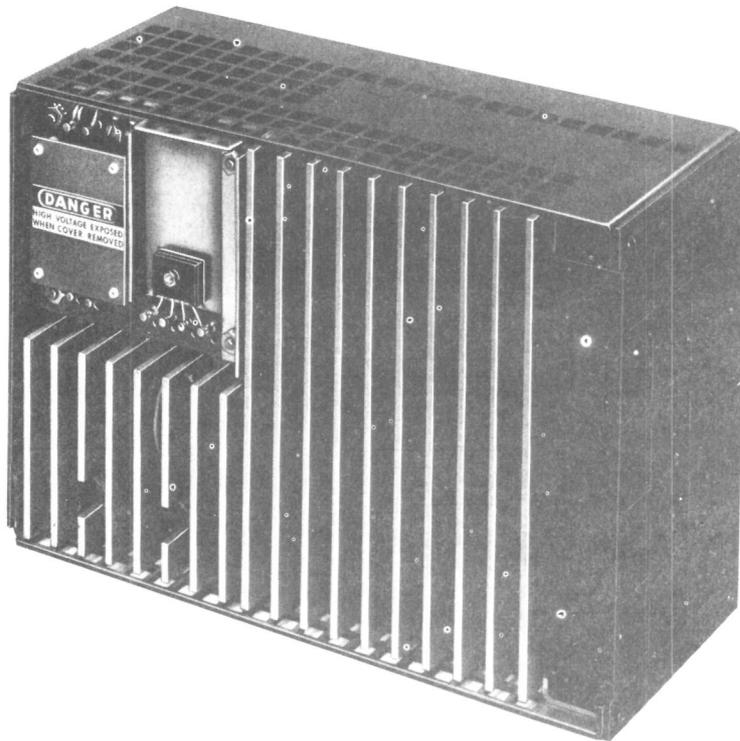

Fig. 5—101A Power Unit
2.08 The dc voltages are supplied to the data sets via the data mounting by the 101A power unit (Fig. 5.) The 101A power unit is mounted on the right side of the data mounting and weighs 20 pounds. If more than one data mounting is required, the 101A power units are interconnected (via P3BJ power cords) with the bottom power unit supplying the external power connection via the KS-14532-L16 power cord.